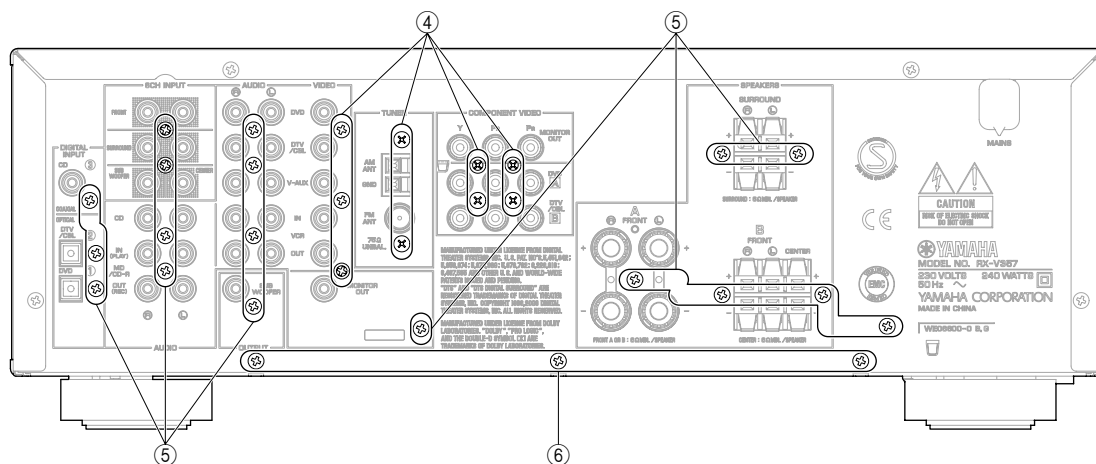

Fig. 3
- Remove 9 screws (④). (Fig. 3)
- Remove 18 screws (⑤). (Fig. 3)
- Remove 3 screws (⑥). (Fig. 3)
- b. Remove 3 screws (⑥). (Fig. 3)